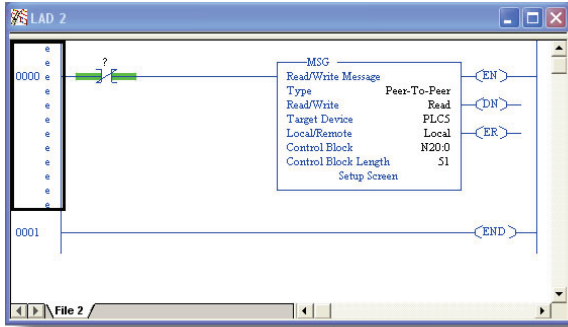

Figure 83: PLC Program after MSG Instruction Configuration
- f) Close the dialog box. At this point, the program should appear as shown in Figure 83.